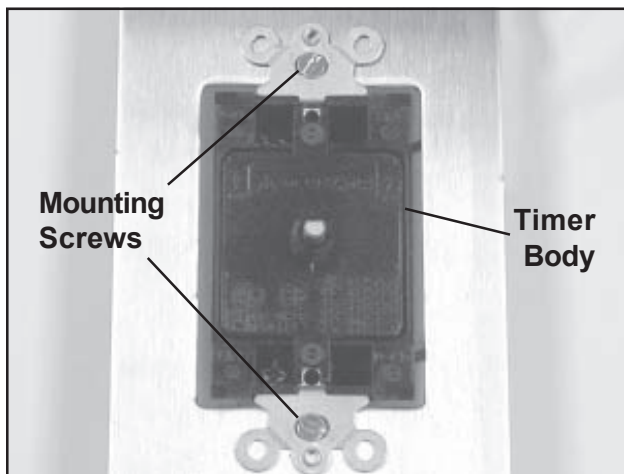

Figure 41. 15-minute Timer - Removing the Timer Body
9. With a flat-blade screwdriver, remove the two mounting screws and lift out the timer body (Figure 41).
1. Place the new timer body into the switch plate and secure with the two mounting screws (Figure 41). The text on the timer body should read right-side up.